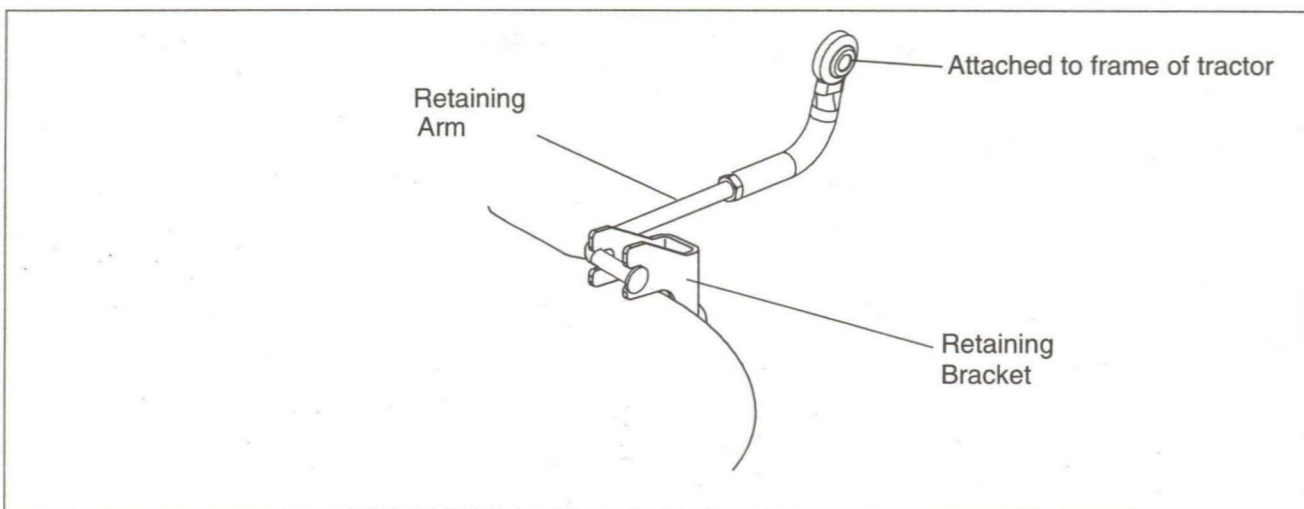

Figure 25
15. From the front of the Z-series, pull the mower deck towards you. This will release the retaining arms from the mower deck. There are two retaining arms one for each side of the deck. (See Figure 25)